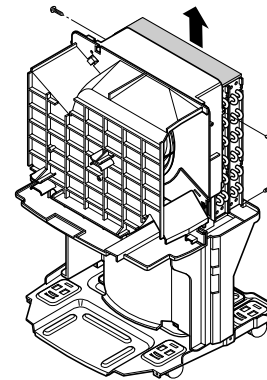

Figure 18
1. Remove 4 screws that fasten the housing assembly to heat exchanger and drain pan, and lift housing assembly upward after unhooking 2 hooks on the housing. (See Figure 18)